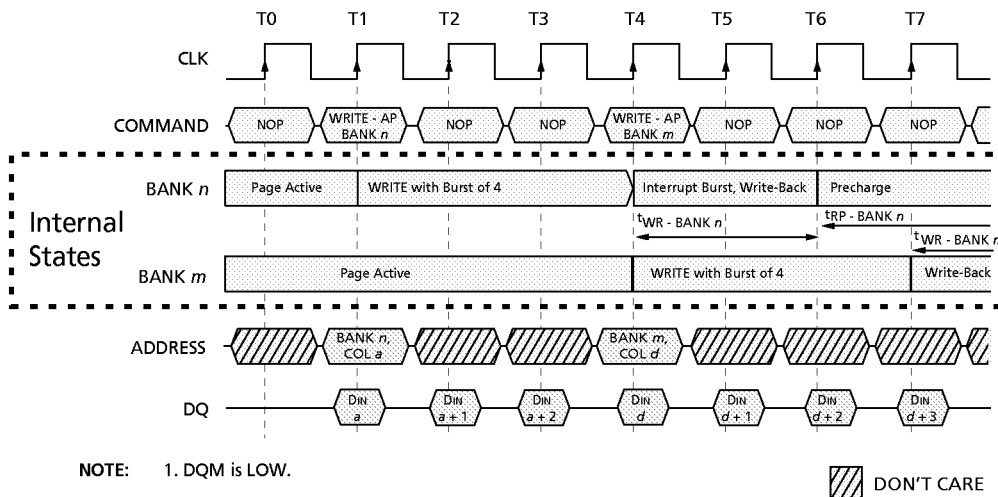

Figure 27
4. Interrupted by a WRITE (with or without auto precharge): A WRITE to bank m will interrupt a WRITE on bank n when registered. The PRECHARGE to bank n will begin after t_{WR} is met, where t_{WR} begins when the WRITE to bank m is registered. The last valid data WRITE to bank n will be data registered one clock prior to a WRITE to bank m (Figure 27).